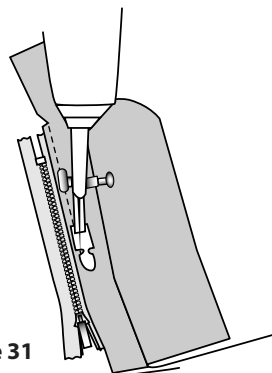

Figure 31
3. Fold zipper back so it faces up. Stitch close to fold edge and zipper coil. (Figure 31)